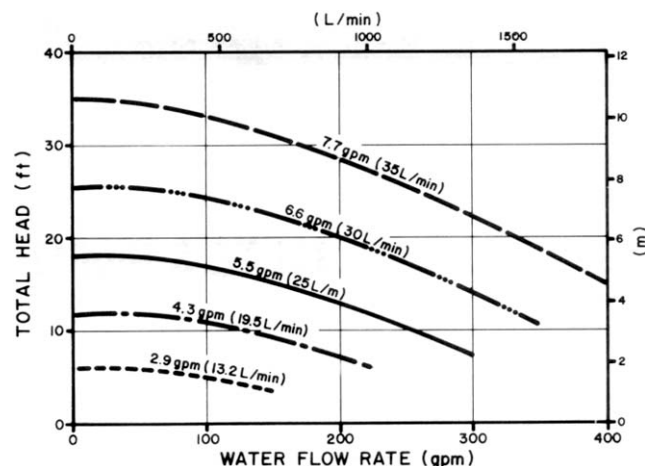

FIGURE 2. Lloyd's Model RE-40 Pump Performance Curves when Pumping Water at Various Hydraulic Motor Oil Flow Rates.
**Flow Rate:** Pump performance characteristics of the Lloyd's model RE-40 when pumping water are given in FIGURE 2 for a range of total heads and hydraulic motor oil flow rates. Performance curves were determined with the pump in the vertical position.